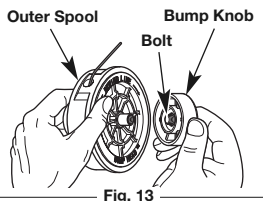

Fig. 13
- Hold the outer spool with one hand and unscrew the bump knob counterclockwise (Fig. 13).